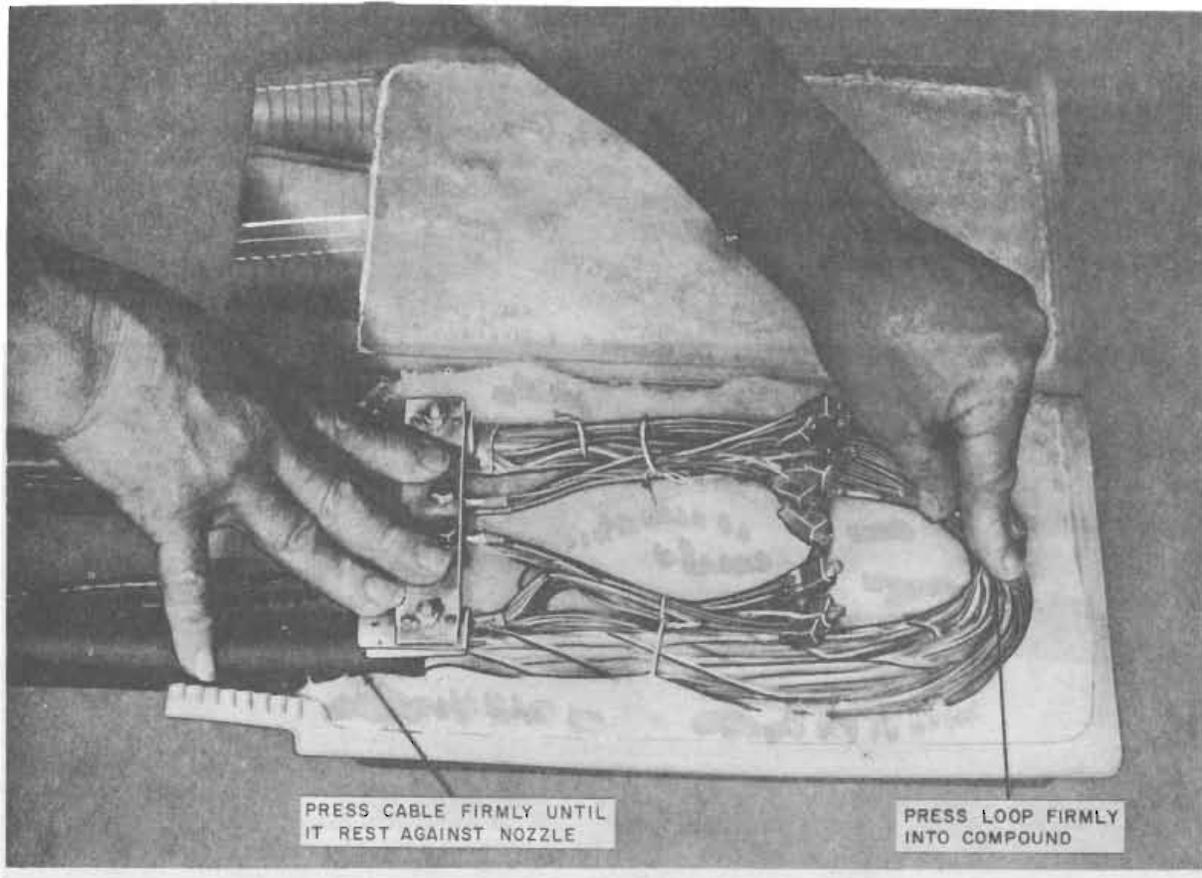

Fig. 43—Placing Cable in 14-Type Closure
13.06 Remove the separators and plastic liner from closure then place the completed splice in the closures as shown in Fig. 42 or Fig. 43 and enclose as outlined in Section 631-600-217.